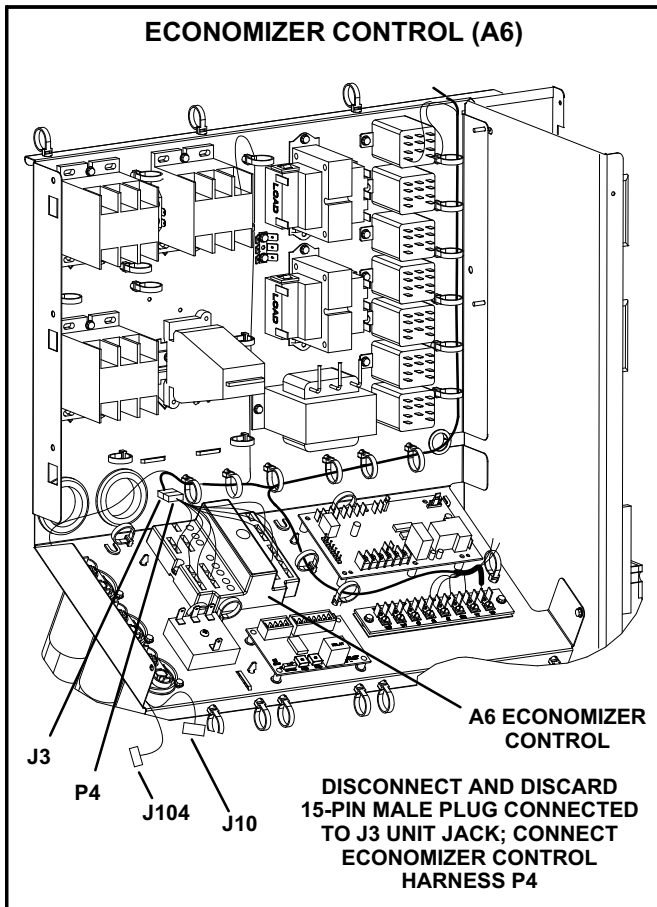

FIGURE 6
- 4- Route harness as shown in figure 6 and use push-in wire tie to secure harness to side wall.